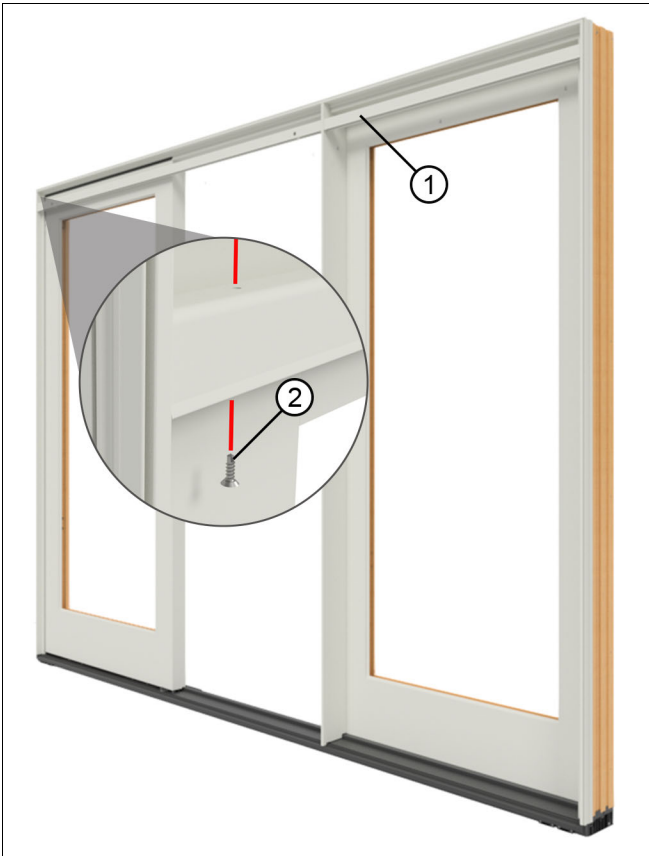

Figure 55
4. Install the Screen Track (if not done already): On OXXO configurations, the screen track will come in two parts (butt together). OXO configurations also come in two parts separated by the mull post. Install with #7 x 3/8" self tapping screws provided. See Figure 55.